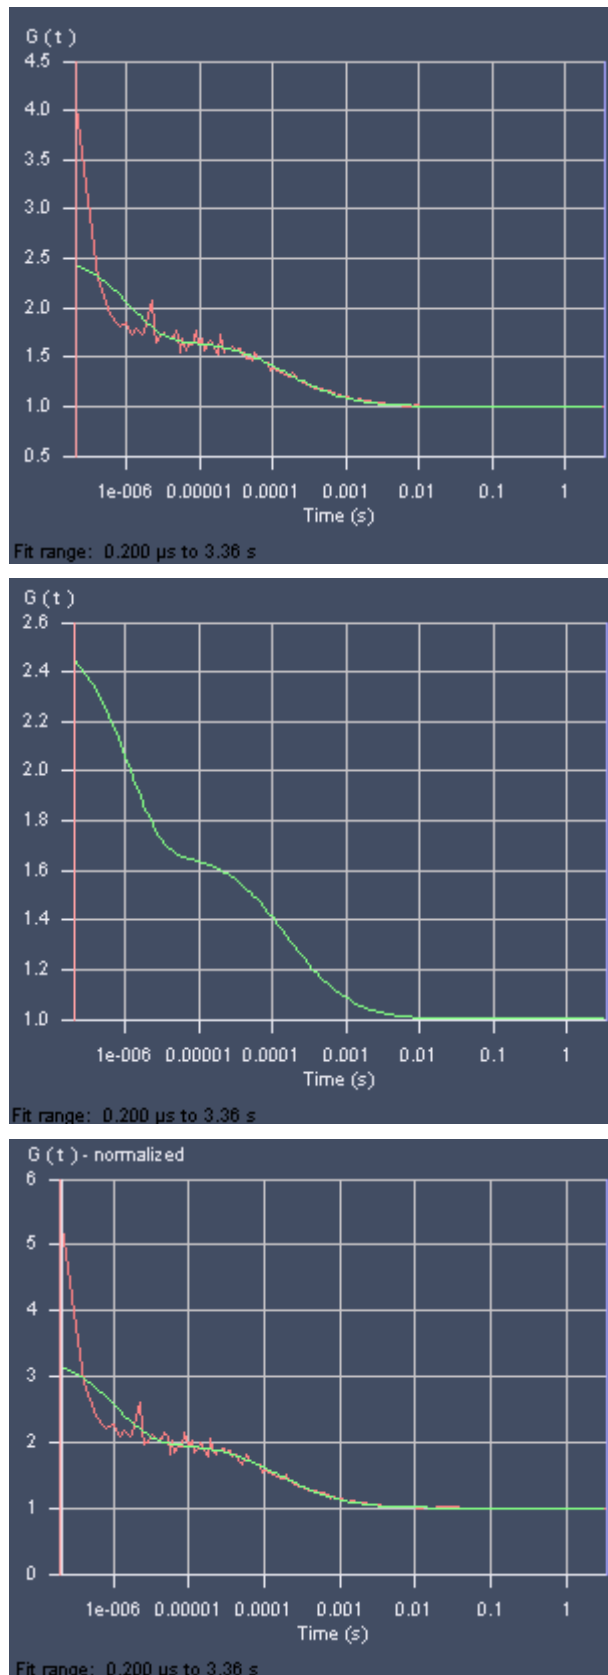

Fig. 358 Fit Correlation Curve (standard display), with fit curve only, in normalized form
- Select **Normalize** to display the correlation curves in a normalized form (Fig. 358). The amplitude of the diffusion contribution will be normalized to 2, not the total amplitude, if other term like triplet state were used in their normalized form. This option is only available for the **Fit Correlation** diagram.